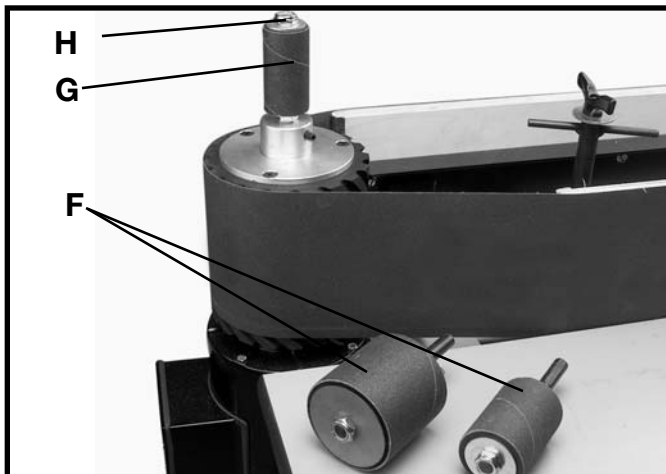
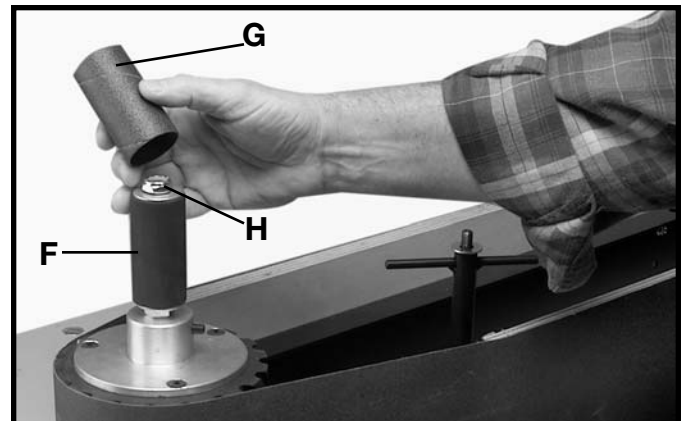

Fig. 16
Fig. 15
5. Assemble the proper abrasive sleeve (G) Fig. 15, over the desired drum spindle (F). **NOTE:** There are three abrasive sleeves supplied, with inside diameters of 1-1/2", 2" and 3" which will fit over the abrasive drum spindles (F) Fig.16 supplied. **IMPORTANT:** If the abrasive sleeve (G) will not slide over the spindle drum (F) Fig. 15, smoothly, loosen spindle nut (H) until abrasive sleeve (G) fits on spindle drum (F).
6. Tighten spindle nut (H) Fig. 16, to hold abrasive sleeve (G) firmly on spindle drum.